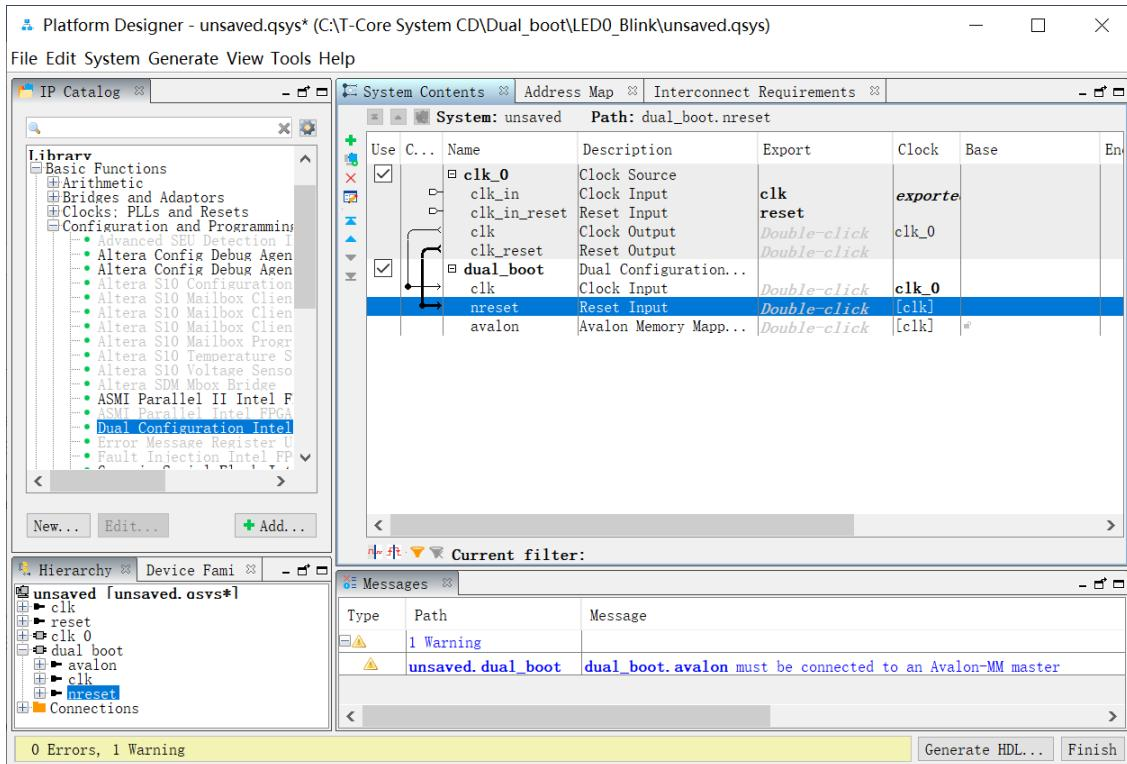

Figure 4-7 Rename and connect dual boot IP OK
3. Click **Finish** to close the wizard and return to the Platform Designer window. Choose **dual_boot_0** and click right key to select **Rename** it to **dual_boot**, and connect the **clk** and **nreset** to **clk_0.clk** and **clk_0.clk_reset** as shown in **Figure 4-7**.